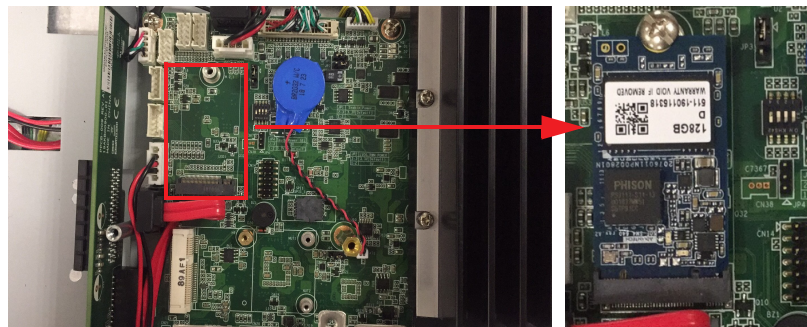

Figure 2.19
2. Plug the M.2 drive into the mainboard interface. Retrieve the two (M2.5x4) screws from the accessory box to affix the drive in place (Figure 2.19).